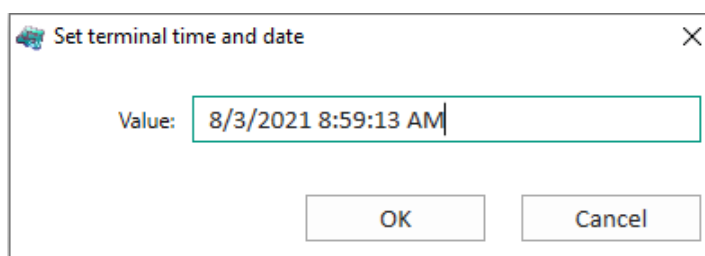

Figure 18 – **Set time and date** command window
- set date and time. The command window is shown in figure 18. When setting the date and time, you must enter a password.